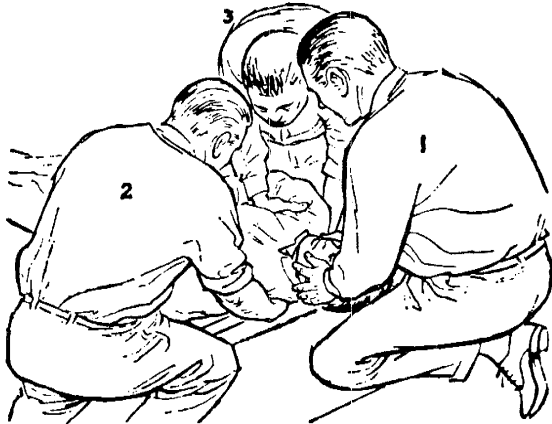

Fig. 32—Holding Victim against the Pull of the Blanket
Step 4. Nos. 2 and 3 kneel on one or both knees at the victim's shoulders, placing one hand flat under his shoulder blade and the other in his armpit. (See Fig. 32.)